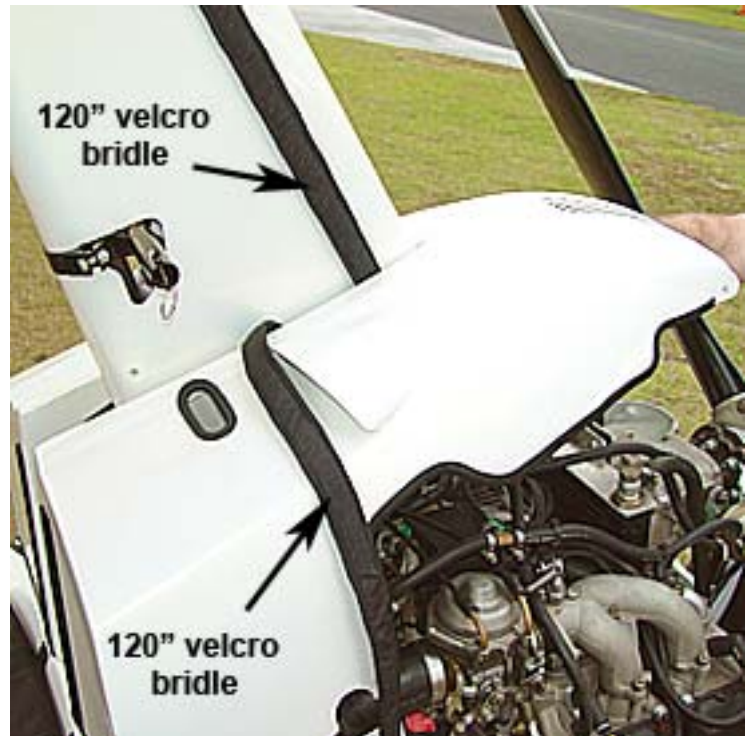

Figure 5-19
- 5.22 While replacing the engine hood fairing (as shown in Figure 5.19), bring the 120" Velcro Bridle through the space between the vertical mast fairing and the engine hood fairing.